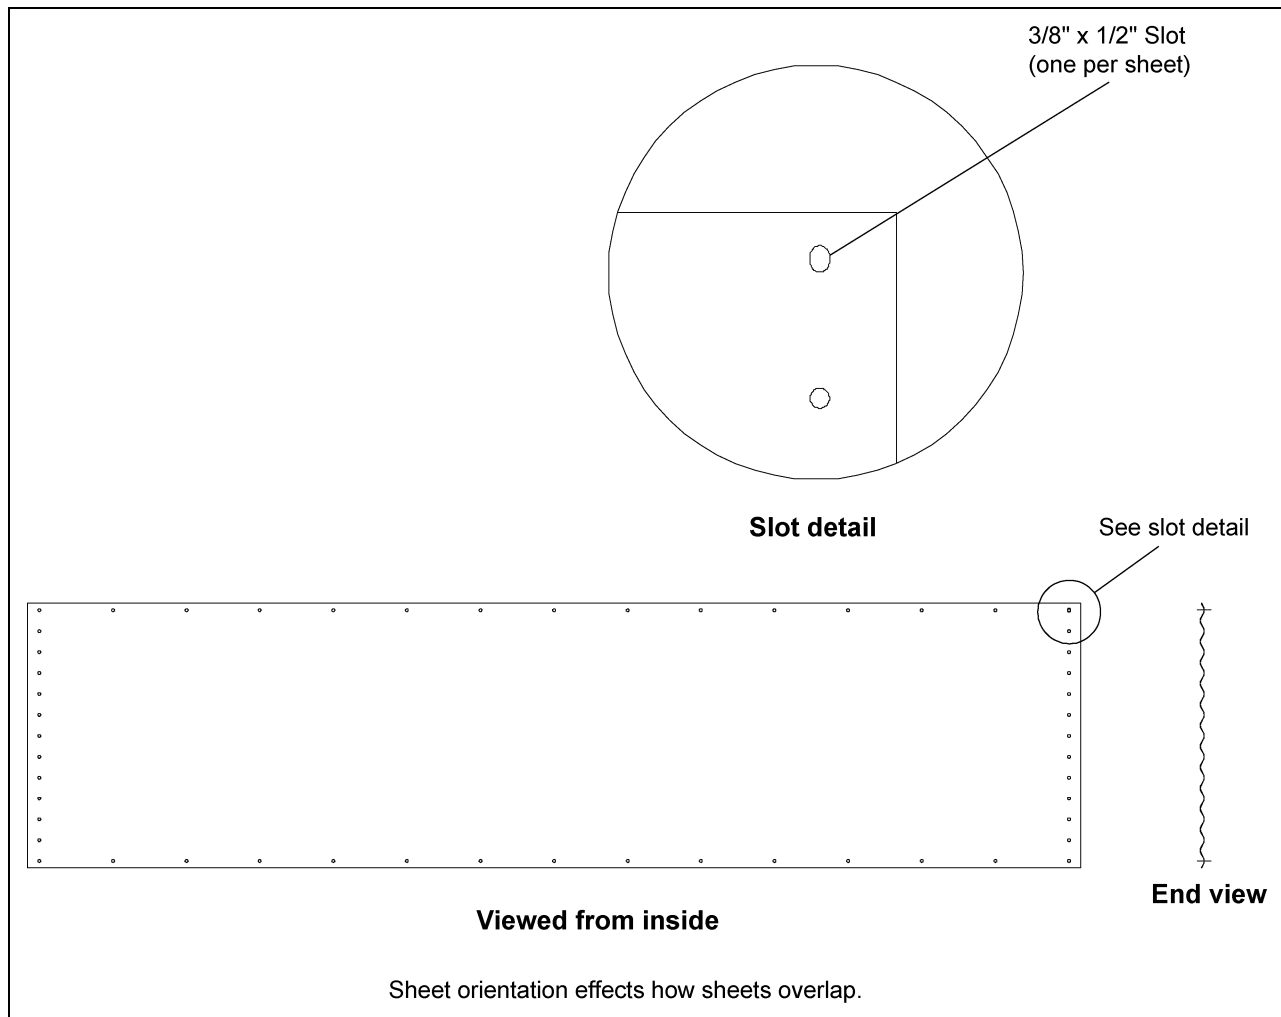

Figure 6C
**IMPORTANT:** Please note sheet orientation when assembling the bin sidewall. The upper right corner will have a slot or identifying sticker. This corner should be on the inside of the tank when assembled. (See Figure 6C.)